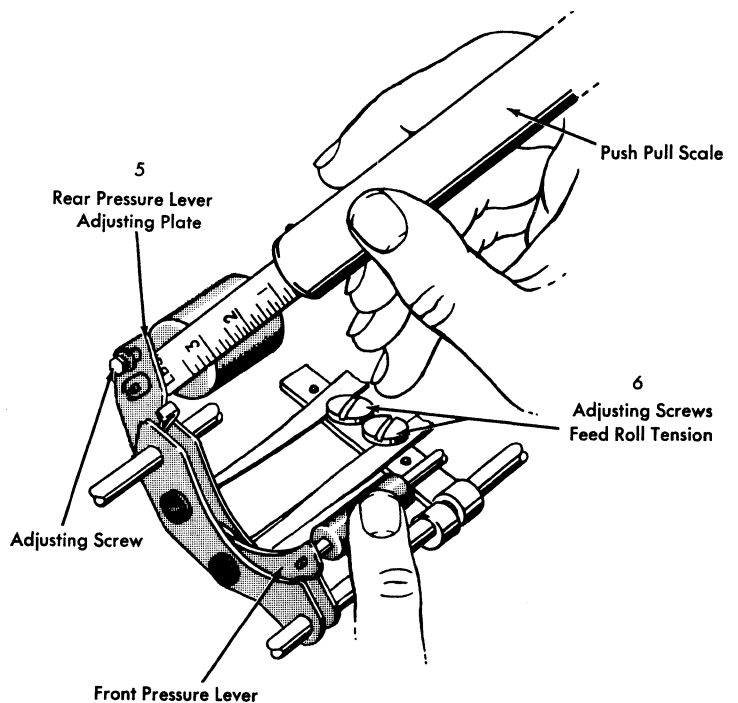

Figure 22. Feed Roll Pressure Adjustment
cause the front pressure levers to be deflected an equal amount during paper release (Figure 22). When two IBM cards are inserted between the rear feed rolls and the platen, the front feed rolls should have a slight amount of drag. If five IBM cards are inserted, the front feed rolls should be free to turn. Too much clearance of the front feed rolls decreases their tension and adds greater tension to the rear feed rolls.
6. Regulate the tension between the platen and each pair of front or rear feed rolls by the adjusting screws which determine the torque of the twisted flat springs. The screws are positioned so that a pressure of 12 to 16 ounces is necessary to deflect each feed roll pressure lever. A push-pull scale may be applied at the ends of each feed roll shaft to make a reading of this adjustment (Figure 22). **NOTE:** Depress the front feed roll pressure levers when checking the pressure of the rear feed roll pressure levers.